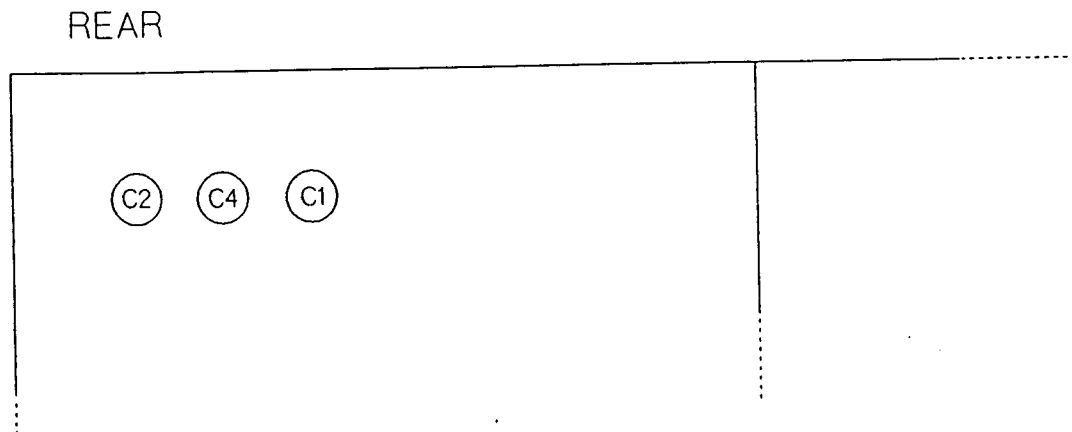

Figure 1. Location of A1A10C1 and A1A10C4
4. Remove the top cover and check for proper position of the capacitors (A1A10C1 and A1A10C4). See Figure 1.